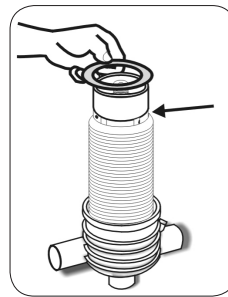

FIGURE 7
- Check that the correct quantity of discs is assembled on the spine. When the discs are pressed with two hands, the top disc should be centered between the two lines molded in the plastic at the top of the nozzles (Figure 7).